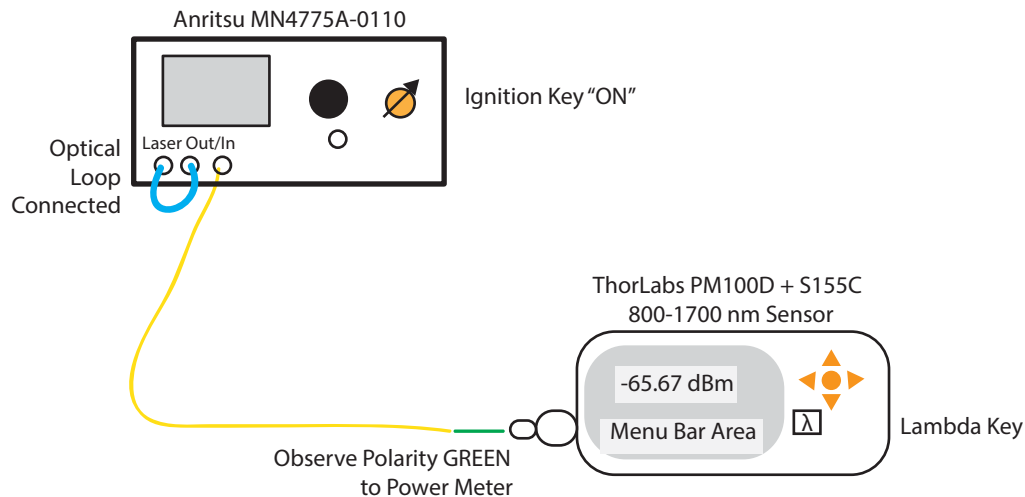

Figure 3-4. Optical Power Measurement – 1550 nm Configuration
- a. Connect PM100D OPM to E/O Converter Output via Optical Cable, as shown in Figure 3-4.